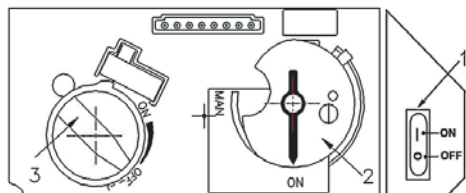
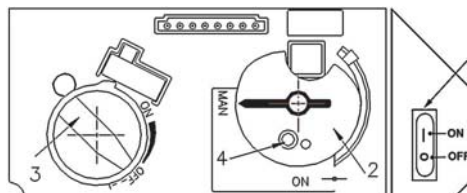
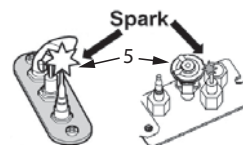

Fig 1
Fig 2
Fig 3
2. SET ON/OFF SWITCH (1) TO "OFF" POSITION.
- Wait five (5) minutes to clear out any gas, then smell for gas, including near the floor. If you smell gas, STOP! Follow "B" in the safety information above on this label. If you don't smell gas, go to the next step.
3. AUTOMATIC IGNITION (fig. 1): Locate the pilot (fig. 3) inside of firebox at Left Hand side.
- ON/OFF switch (1) in ON position, MAN-knob (2) in ON position; set Flame Adjustment knob (3) to lowest setting (⊖);
- When the pilot is lit, the Flame Adjustment knob (3) will automatically rotate to the highest setting.
4. MANUAL IGNITION (fig. 2): With the window off, locate the pilot (fig. 3)